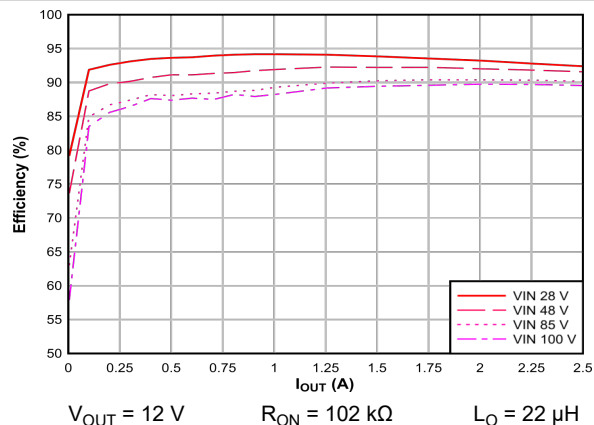
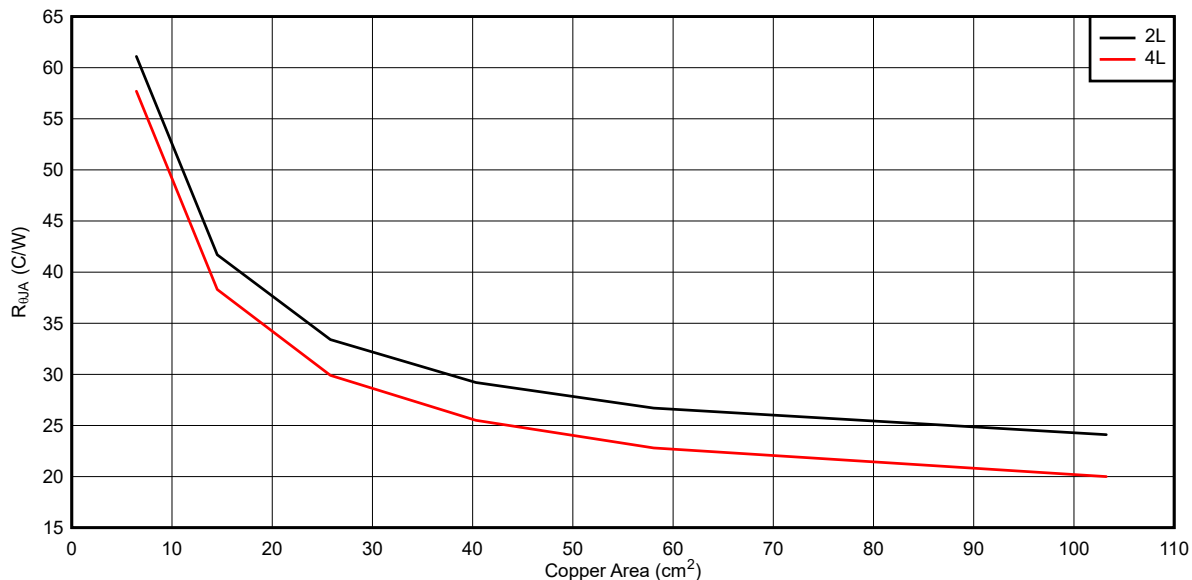

Figure 9-3. Conversion Efficiency (Linear Scale)
Figure 9-15. Typical $R_{\theta JA}$ vs Copper Area
The LM5012 features a die attach paddle, or "thermal pad" (EP), to provide a place to solder down to the PCB heat-sinking copper. This feature provides a good heat conduction path from the regulator junction to the heat sink and must be properly soldered to the PCB heat sink copper. Typical examples of $R_{\theta JA}$ can be found in Figure 9-15. The copper area given in the graph is for each layer. The top and bottom layers are 2-oz. copper each, while the inner layers are 1 oz. Remember that the data given in this graph is for illustration purposes only, and the actual performance in any given application depends on all of the previously mentioned factors.
curves in Figure 9-3, an efficiency of about 92% was found at an input voltage of 48 V with output of 12 V with 1.75-A load. The efficiency is somewhat less at high junction temperatures, so an efficiency of approximately 90% is assumed. This gives a total loss of about 2.3 W. Subtracting out the conduction loss alone for the inductor and catch diode, the user arrives at a device dissipation of about 1.54 W. With this information, the user can calculate the required $R_{\theta JA}$ of about 30°C/W. Based on Figure 9-15, the required copper area is about 40 cm², for a two-layer PCB.